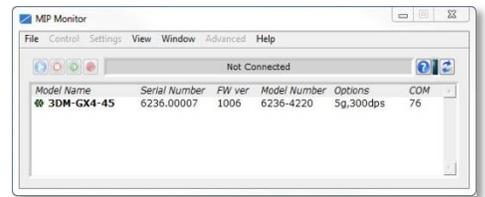

Figure 2: Device pane
2. The software will automatically search for the 3DM-GX4-45™ and display it in the Device pane. The Model Name, Serial Number, Firmware Version, Model Number, Options and COM port will be displayed as shown in Figure 2.